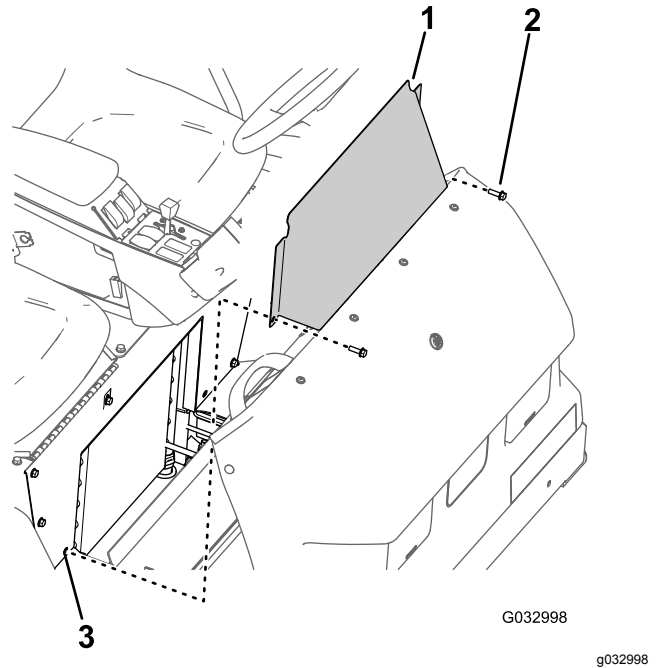

Figure 59
1. Remove the 2 flanged-head bolts that secure the seat-base-access panel to the seat base (Figure 59).
2. Remove the seat-base-access panel from the machine (Figure 59).
1. Align the holes in the seat-base-access panel with the holes in the seat base (Figure 59).
2. Assemble the seat-base-access panel to the seat base with the 2 flanged-head bolts (Figure 59) that you removed in step 1 in Removing the Seat-Base-Access Panel \(page 49\).